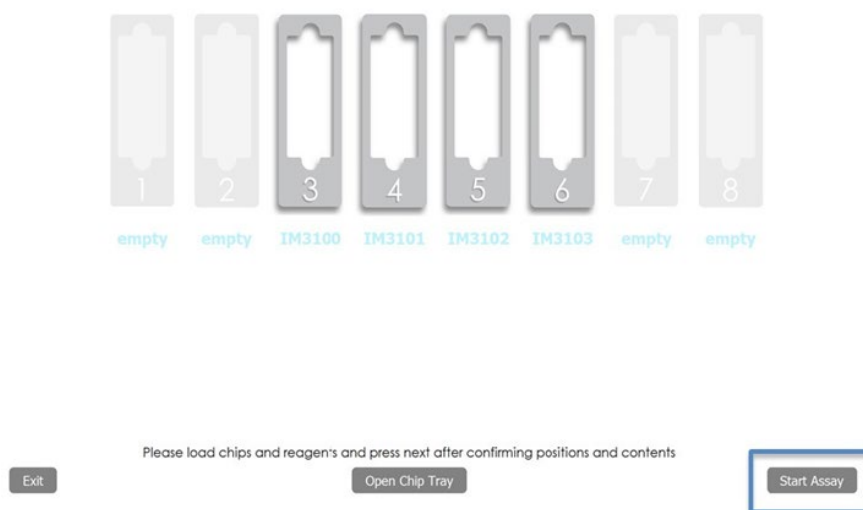

Figure 201
5. Press “Start Assay” after all tray positions were scanned and the chips displayed (Figure 201).